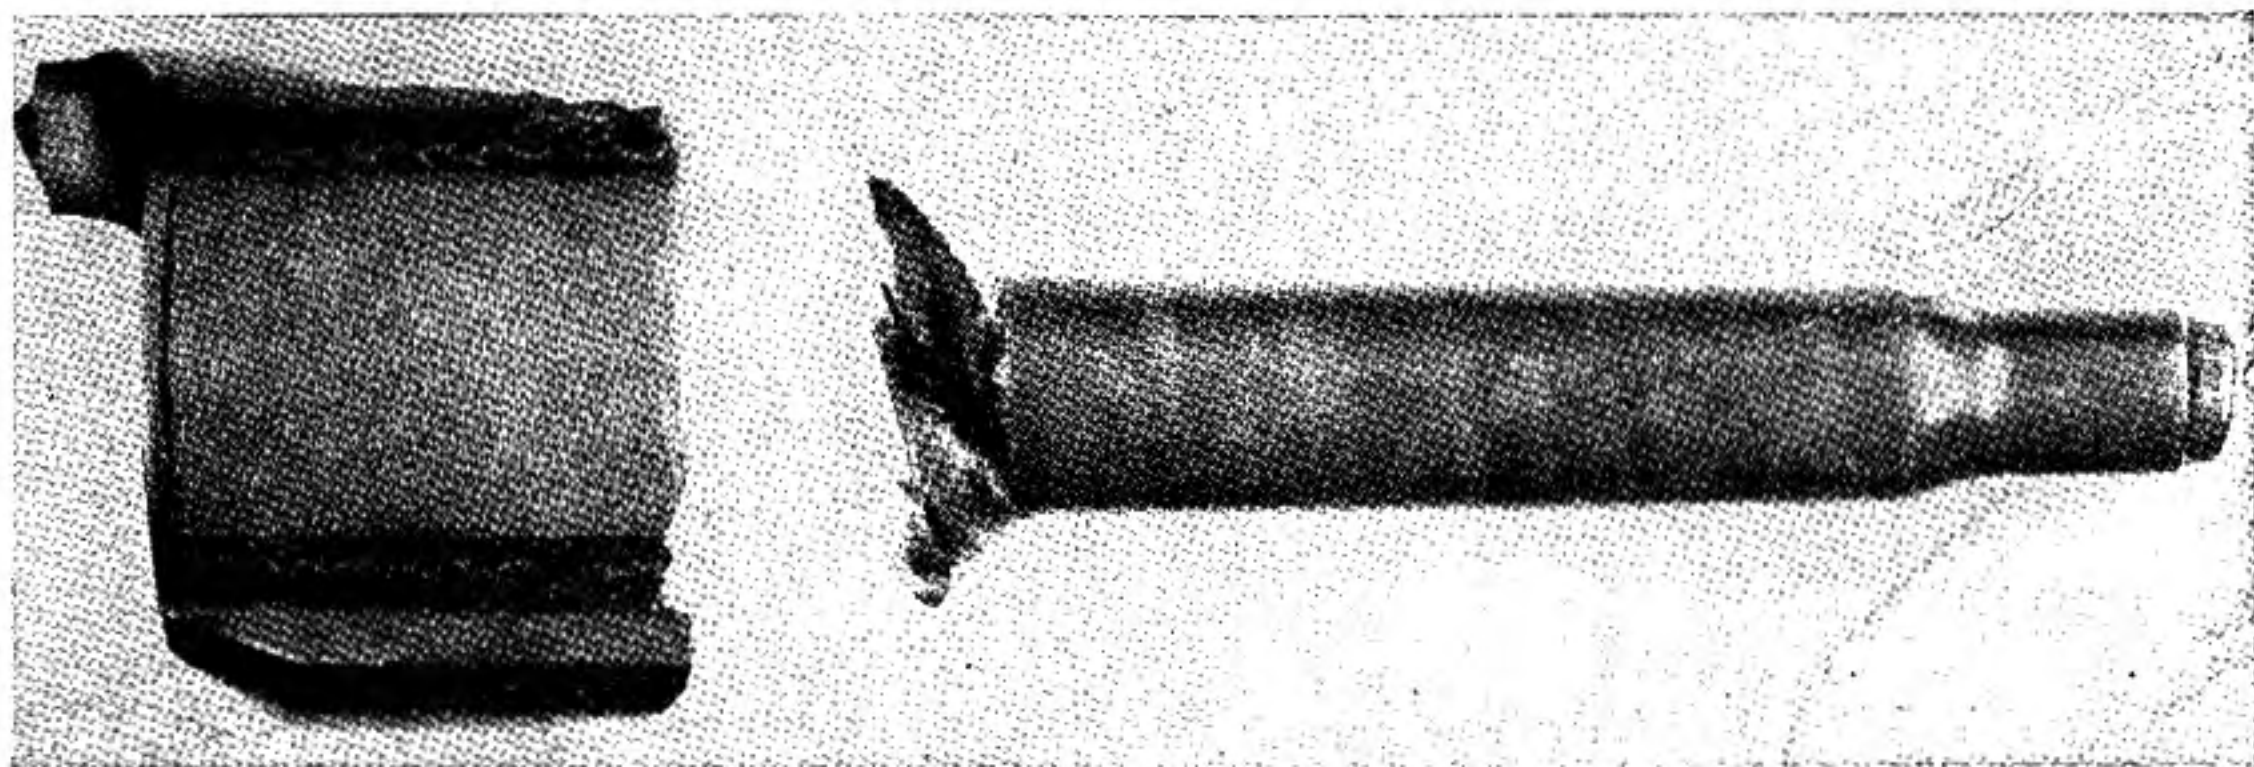

Fig. 47
**I**T MUST be realized, especially by the amateur starting to remodel guns and rifles, that firearms bear a close relationship to the ammunition they were designed for and that few of them can be "stepped up" to the use of later and more powerful loads. If one will consider the tremendous increase in pressures that has been obtained and keep this firmly in mind, it will govern him wisely and safely in his experiments. No one in his right senses would put a steam pressure of 300 pounds upon a boiler designed for 50 pounds, yet men will strangely insist on doing this very thing with firearms. Take for instance the fine old Krag rifle—why was it set aside and a brand-new rifle adopted? Because it was not a clip loader, and was only designed for a maximum chamber pressure of 42,000 pounds, while the advance in ballistics provided a new cartridge, and the .30 caliber model, 1906, required a rifle capable of withstanding *five tons* more pressure than was provided for in the Krag. Not only was a much superior grade of steel needed, but a new and different breech action, stronger in every way, was imperative. Now because these pressures are maximums, it is possible to overload a rifle and get away with it at times, but remember you are flirting with death or disablement when you attempt it; and if you deem this price too high, be ultra careful with pressures and always err on the safe side. Figure 47 will